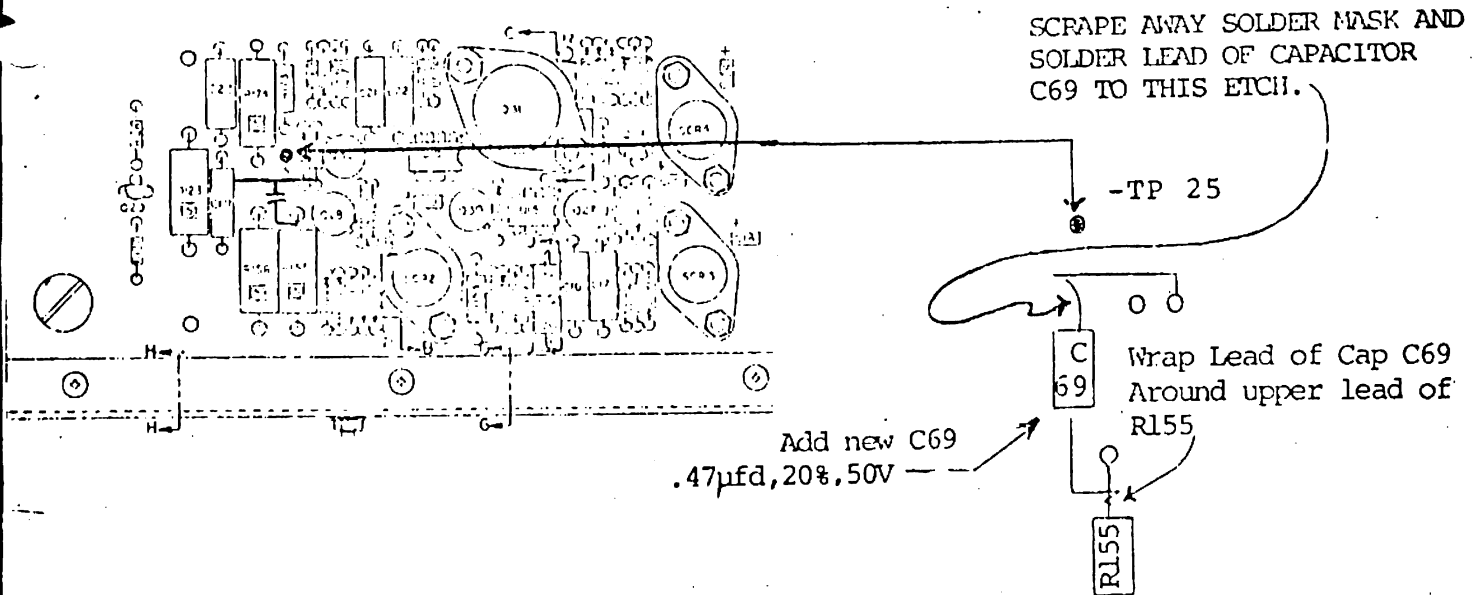

FIGURE 2
2.0 Add new C69 as shown in Figure 2.